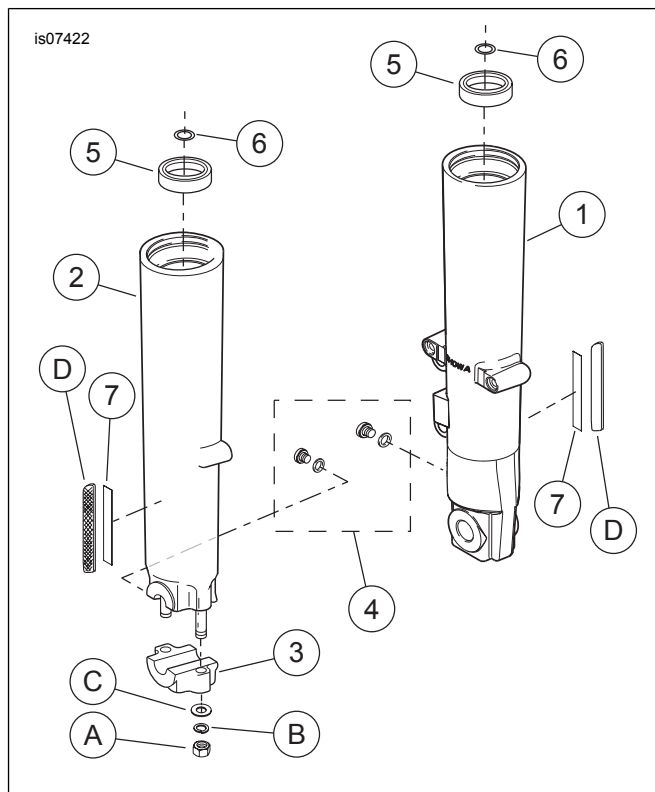

Figure 2. Service Parts, Chrome Lower Fork Slider Kit
See Figure 2 and Table 1.
- a. Replace the original fork sliders with the chrome sliders (see Figure 2, items 1 and 2) from the kit.
- b. Replace the original slider oil seal on each side with a **new** slider oil seal (5) from the kit.
9. Peel the liner from **one side** of the foam double-sided tape (see Figure 2, item 7). Position the tape to the back of the reflector, and press firmly into place. Repeat for the remaining reflector.